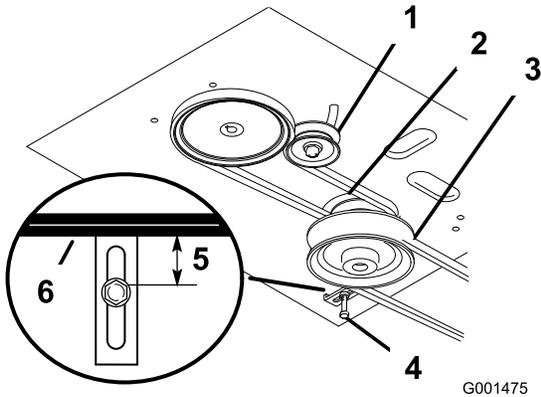

Figure 39
- Remove the mower belt; refer to Replacing the Mower Belt (Figure 39).
- Loosen the pivot bolt enough to slide the idler pulley in the slot and remove the traction belt from the engine and the drive pulleys (Figure 39).
- Install the new drive belt around the engine and the drive pulleys (Figure 39).
- Slide the idler pulley in the engine frame to tension the traction belt (Figure 39).
- Install the mower belt (Figure 39).
- Check the belt guide under the engine frame for the proper adjustment (Figure 39).